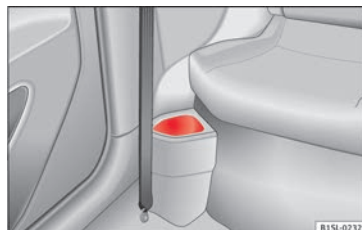

Fig. 127 In front of the rear seats: storage compartment
- In front of the rear seats »» Fig. 127.